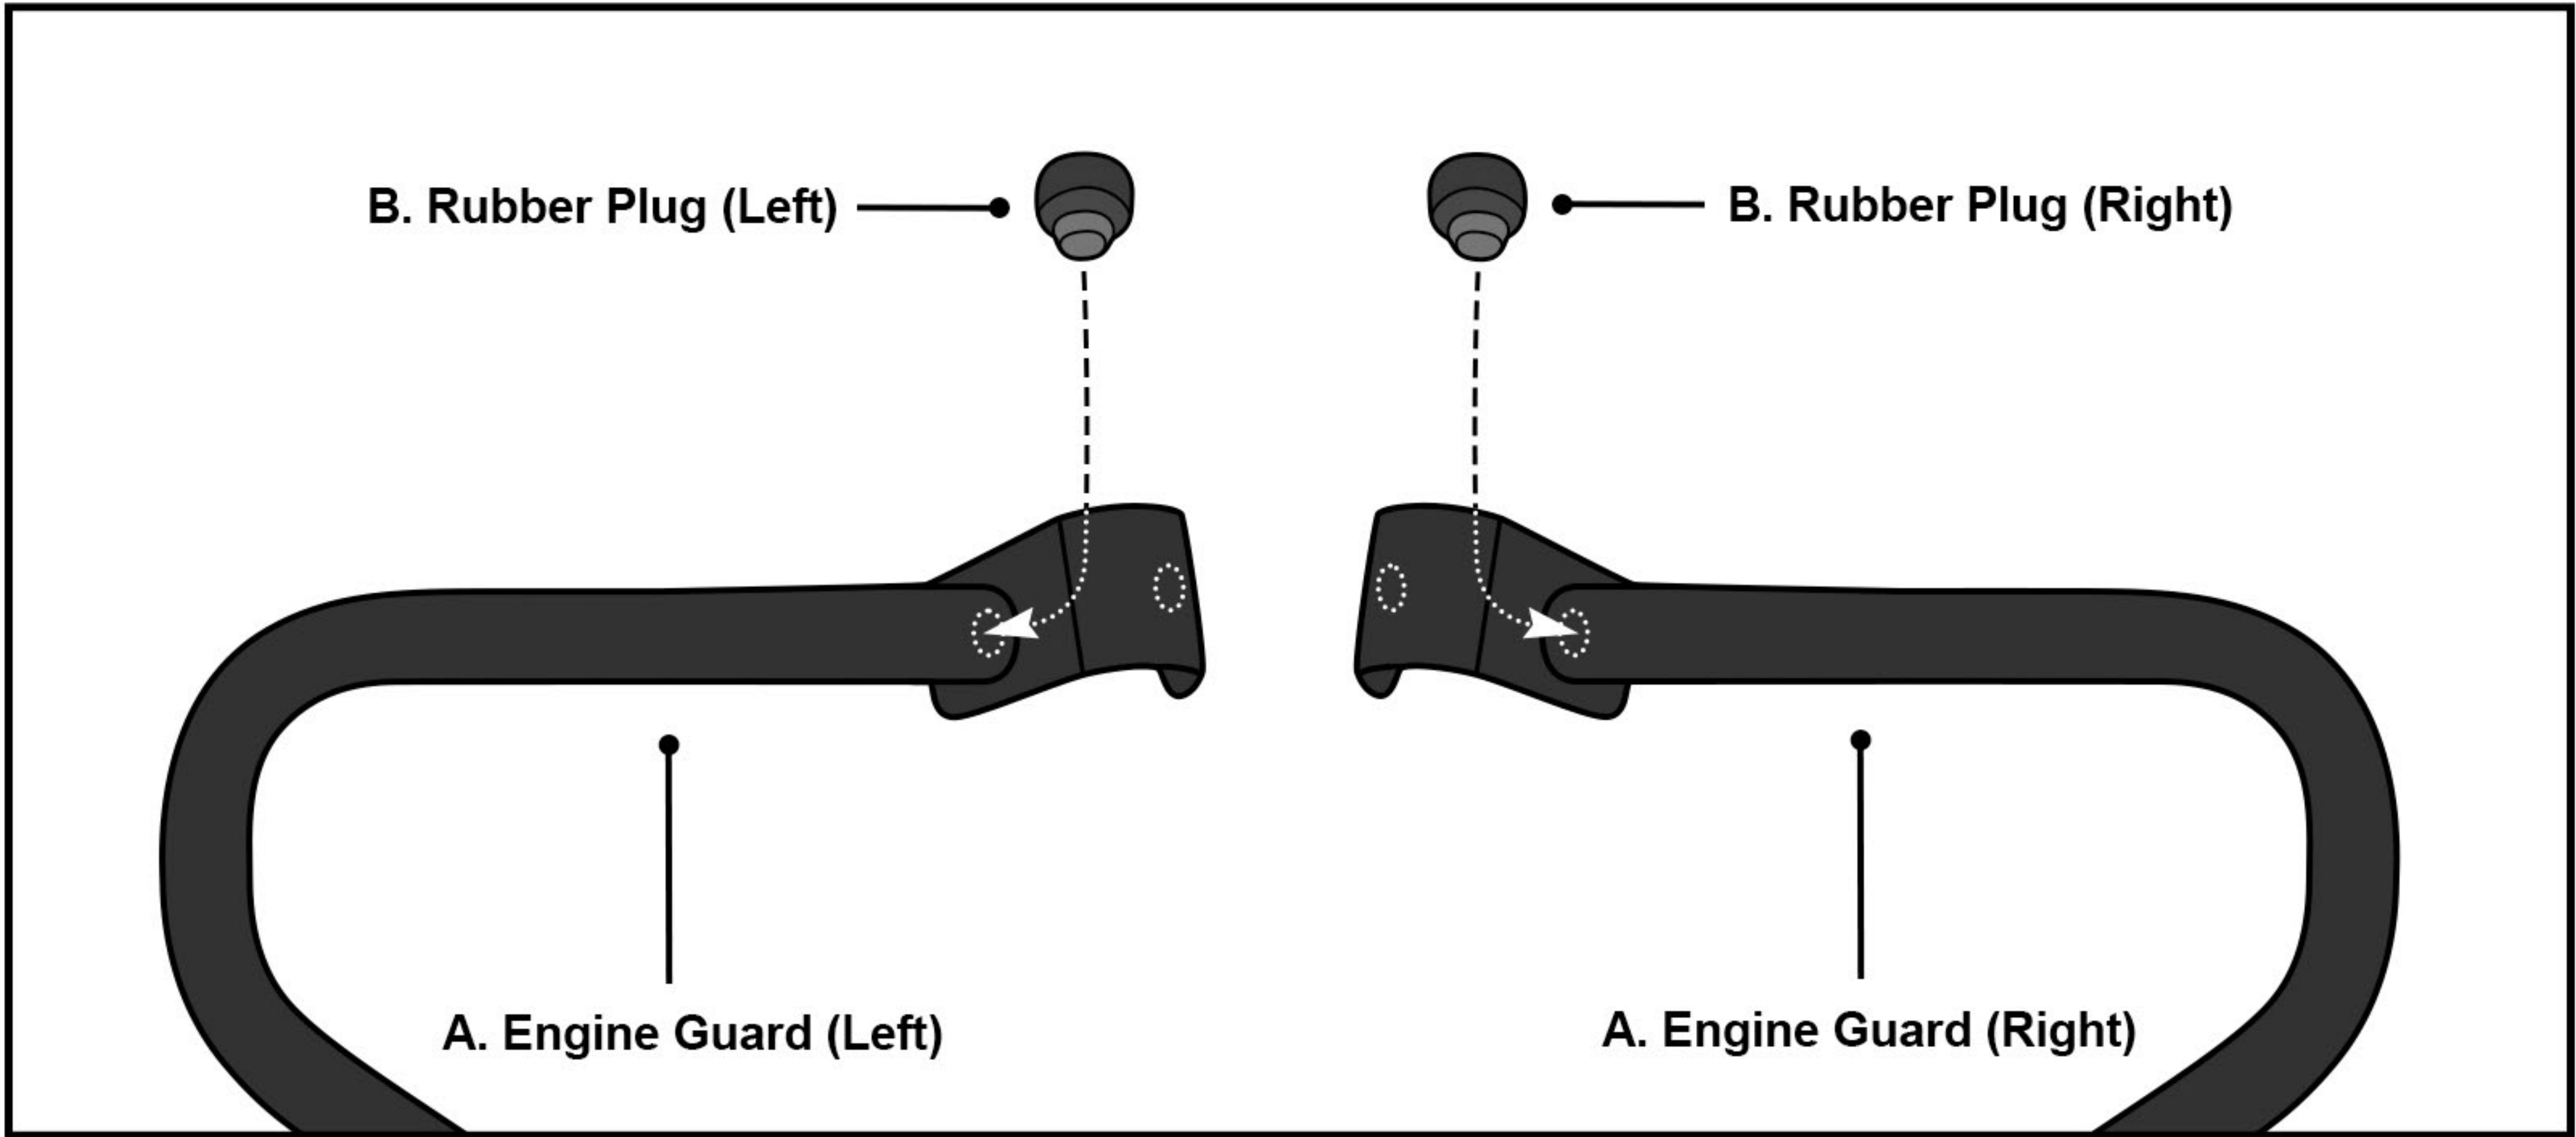

Fig 4. Installing the rubber plug
Install rubber plugs(B) into the right and left crash bars. See Fig 4.